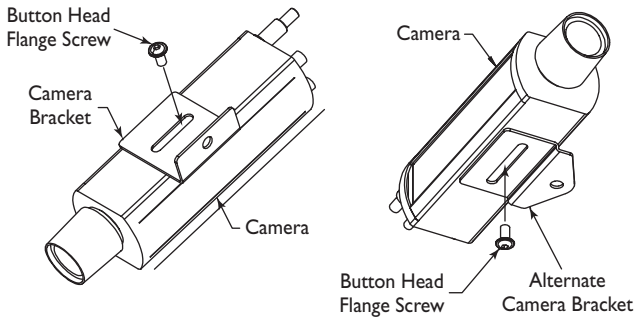

Figure 11 Camera Mounts
3. Secure the camera to the camera mount using one  $\frac{1}{4}$ -20 x  $\frac{1}{2}$ -inch button-head flange screw. See **Figures 11, 12, and 13**.